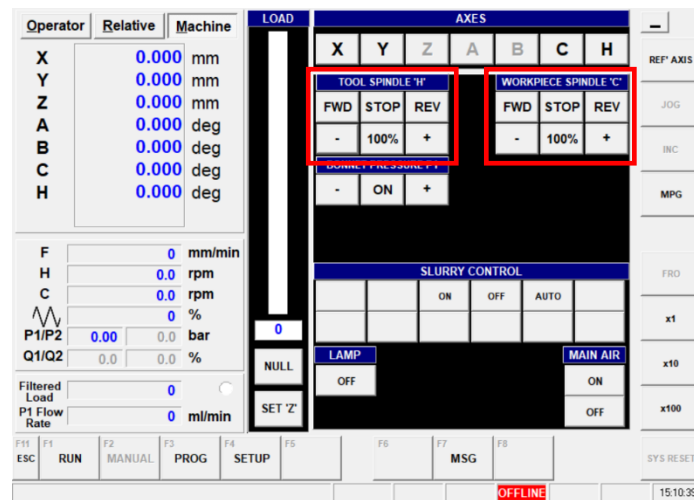

Figure 55 - GUI Manual page
The tool spindle and work piece spindle may be manually operated by selecting options from the “TOOL SPINDLE (S)” and “WORKPIECE SPINDLE (C)” section of the GUI “MANUAL” page. See (Figure 55 - GUI Manual page).